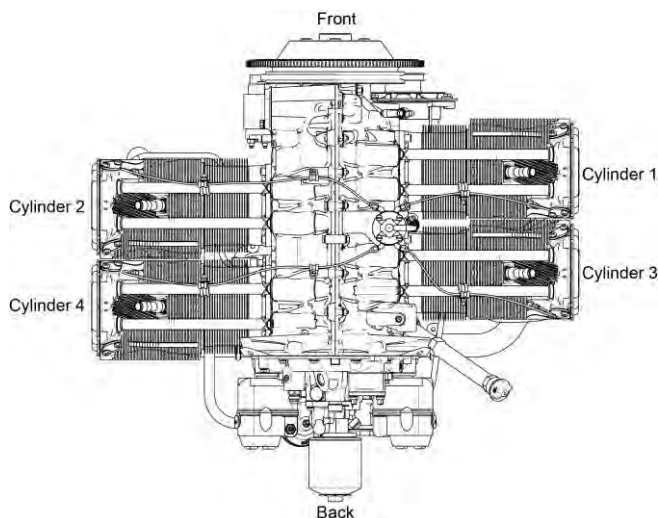

Figure 4
- When viewed from the top of the engine, the left side cylinders are 2-4. Cylinder 2 is at the front of the engine. Refer to Figure 4.
- When viewed from the top of the engine, the cylinders on the right are 1-3. Cylinder 1 is at the front of the engine. Refer to Figure 4.